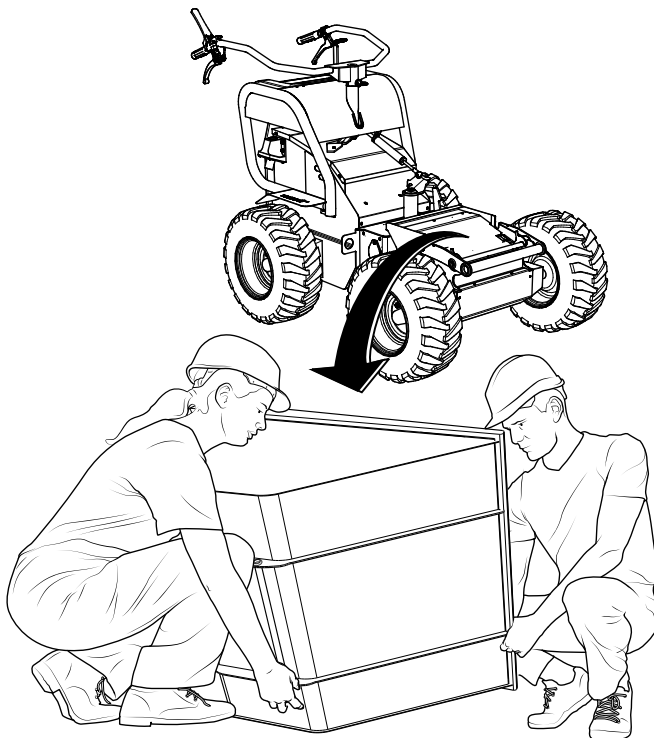

Figure 6. Tub Removal
3. **With two people**, lift and remove the tub (Figure 6). Place the tub onto its side away from the unit.